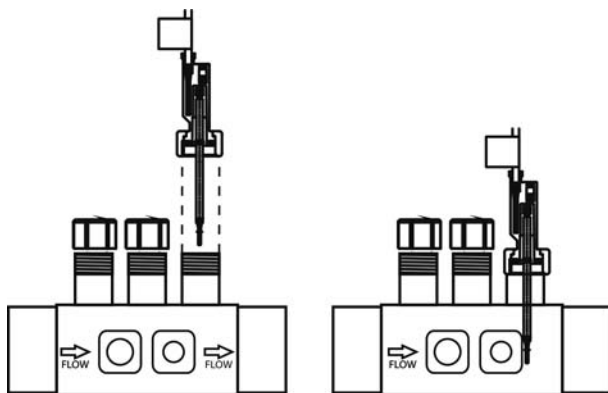

Fig. 10
2. Install the flow detector (flow switch) supplied vertically in the sensor holder supplied with the equipment (Fig. 10).